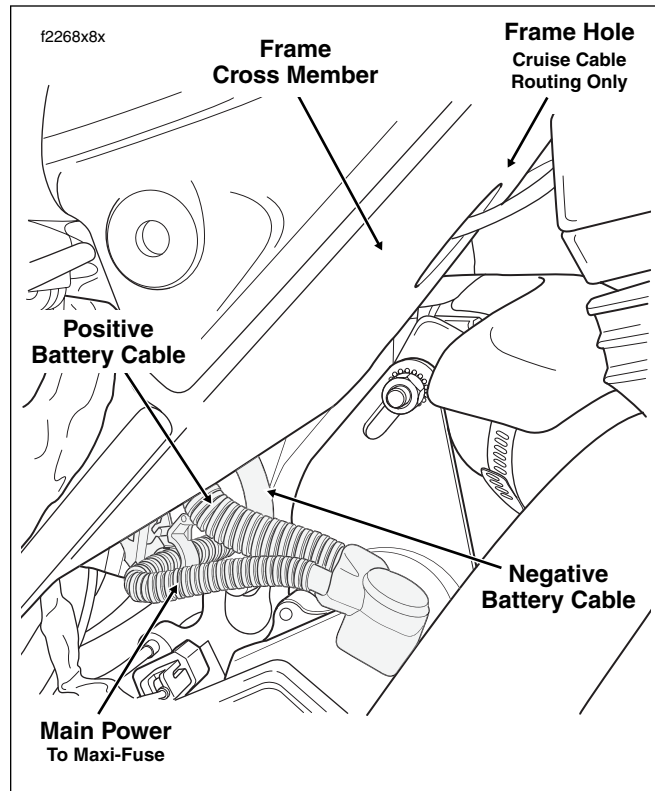

Figure 5-3. Battery Cable Routing (Right Side View)
7. Pull back rubber boot and remove flange nut from starter post. Remove main power and battery positive cable ring terminals from starter post. See Figure 5-3.
7. Install battery positive and main power cable ring terminals onto starter post. Install flange nut and tighten to 70-90 in-lbs (7.9-10.2 Nm). Pull down rubber boot over terminal connections on starter post. See Figure 5-3.